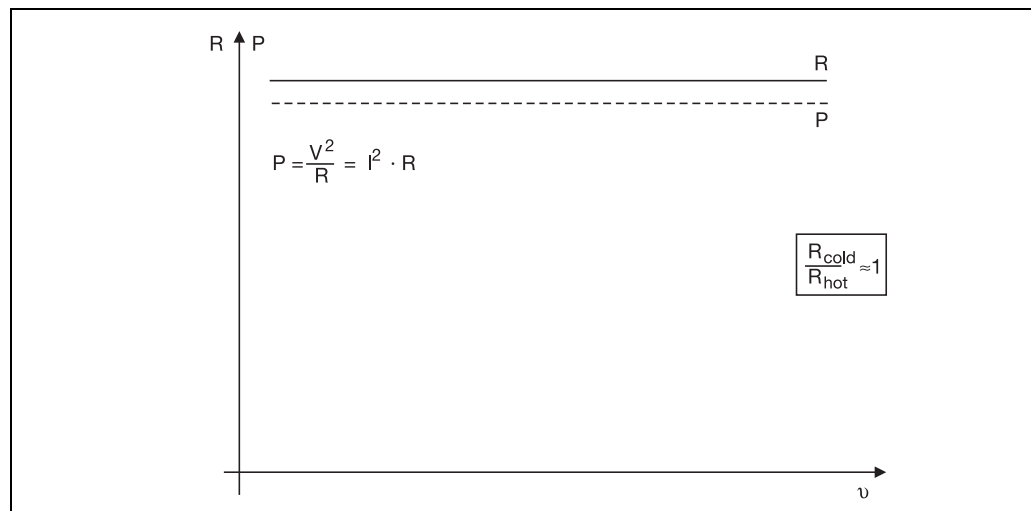

Figure 2: Heating element with $TC \approx 1$
- Some resistance materials have a TC that is close to 1. These include heating elements made from nickel/chrome, constantan, etc. This does not place any special demands on the thyristor power controller (e.g. current limiting). The resistance characteristic for a heater element with a $TC \approx 1$ is shown in Figure 2.